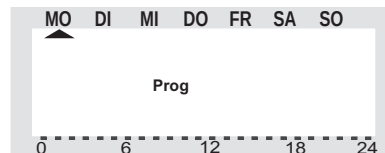

Figure 15
- "**Prog**" is displayed and the arrow " points to "**MO**" (Monday), see figure 15.